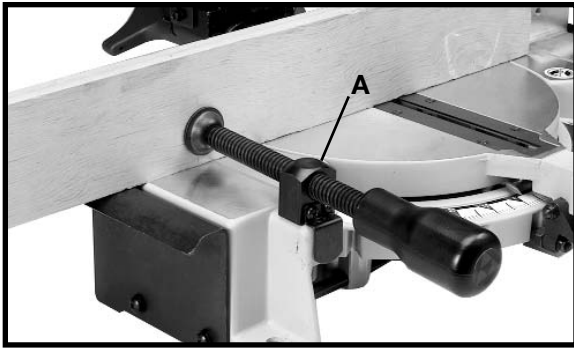

Fig. 34
2. Place the workpiece on the table and hold or clamp it firmly against the fence. Fig. 34 illustrates the work clamp (A). The clamp (A) can also be used on the right side of the machine.